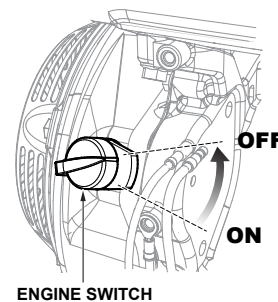

Figure 27. Engine Switch (OFF)
2. Turn the engine switch to the **OFF** position (Figure 27).